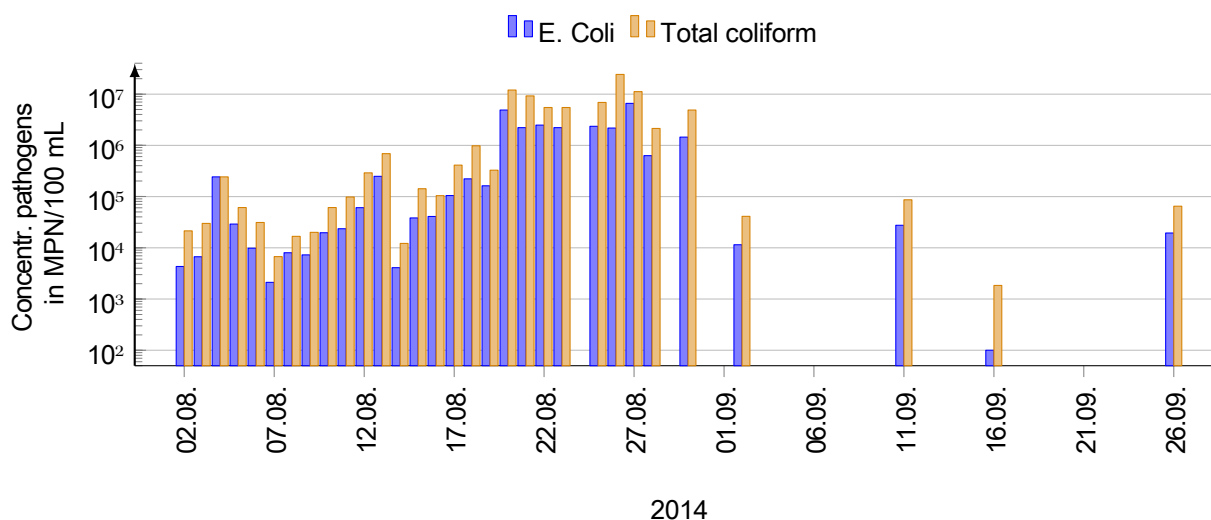

Figure 5: Load of added water on *E. coli* and total coliforms. (On days with both values equal to zero, the load measurement is missing).
The maximum load of *E. coli* bacteria in the experiments was about $6 \cdot 10^6$ MPN/100 mL and of total coliforms about $2 \cdot 10^7$ MPN/100 mL. Fig. 5 shows the loading curve of the contaminated water. In the experiments, water with a very high concentration of pathogens was used to find out possible performance limits of the system. As a rule, the load of the water to be treated is lower.
E. Coli and total coliforms of the added water with the concentration curve shown in Fig. 5 were reduced below the detection limit of 1 MPN/100 mL in each composite sample. This indicates a reduction efficiency of E. coli bacteria of at least lg 6.8 and of total coliforms of at least lg 7.4 For further information see the above mentioned Bachelor thesis.